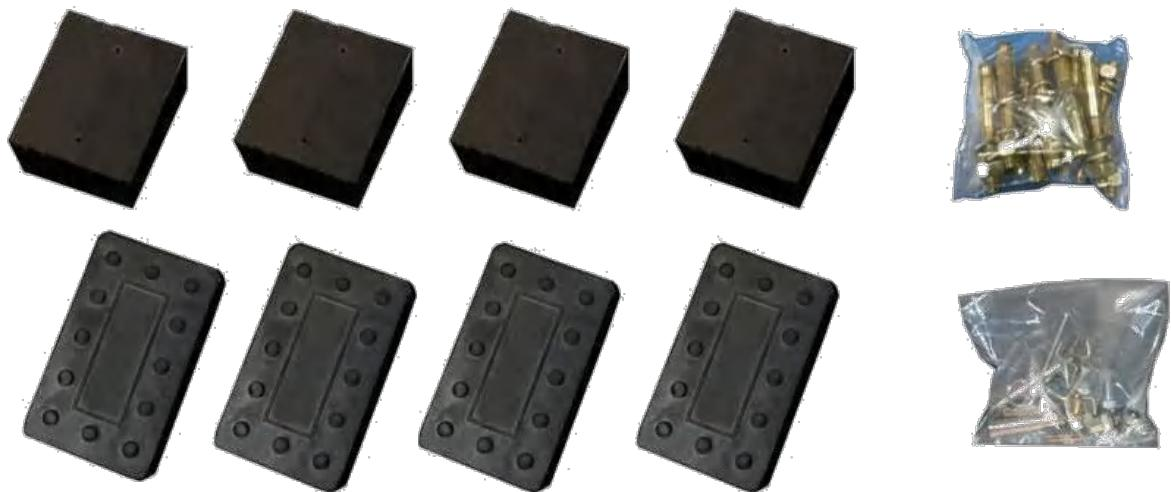

Fig. 10
3. Open the parts box, check the parts according to the part list (**See Fig. 10**).